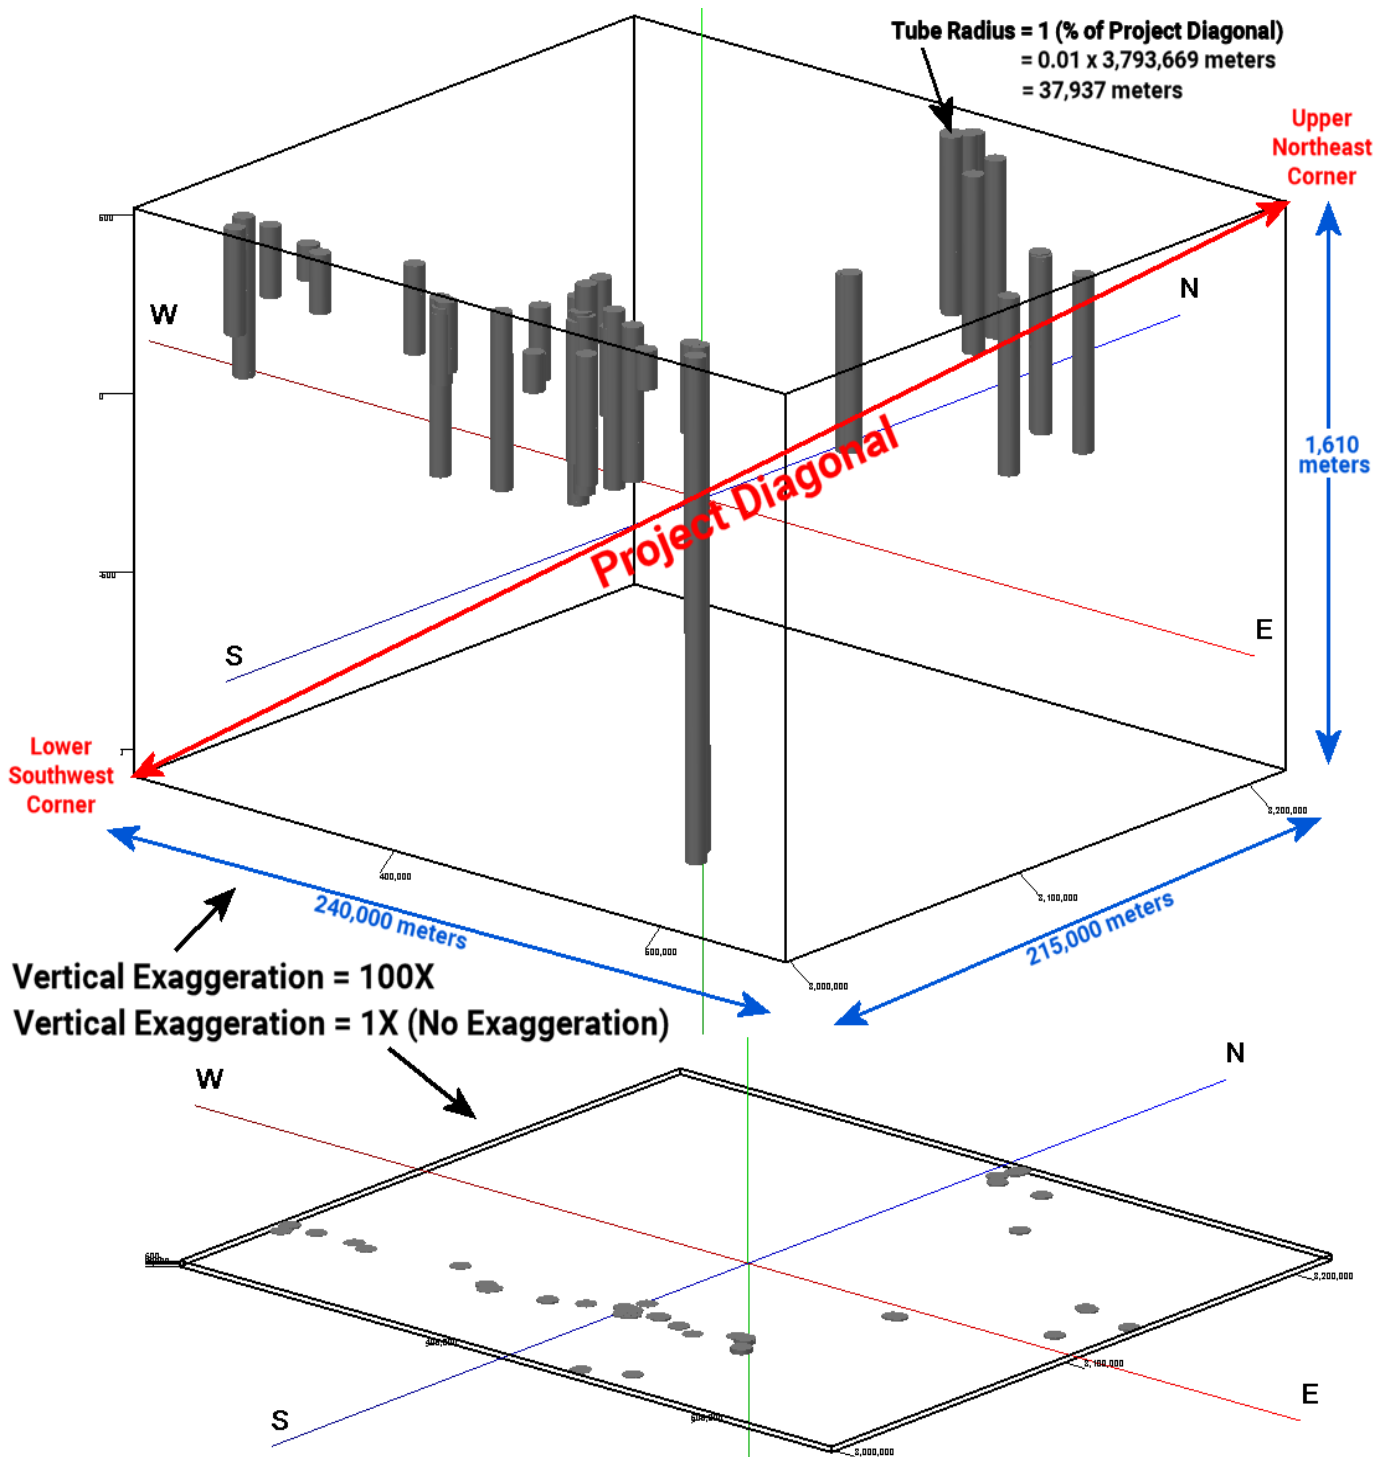

Figure 1
The dimensions of items within RockWorks diagrams are specified in terms of the "Project Diagonal". The *Project Diagonal* is the distance from the lower southwest corner to the upper southeast corner (Figure 1). As a consequence, the Vertical Exaggeration must be set to a very high number when plotting well logs within very large project areas. In this example, the width/height ratio is approximately 240,000/1,600 (150), which means that the vertical exaggeration must be at least 50X in order to visually discriminate anything useful within cross-sections and three-dimensional diagrams. Accordingly, this presents challenges when switching between large- and small-scale diagrams.